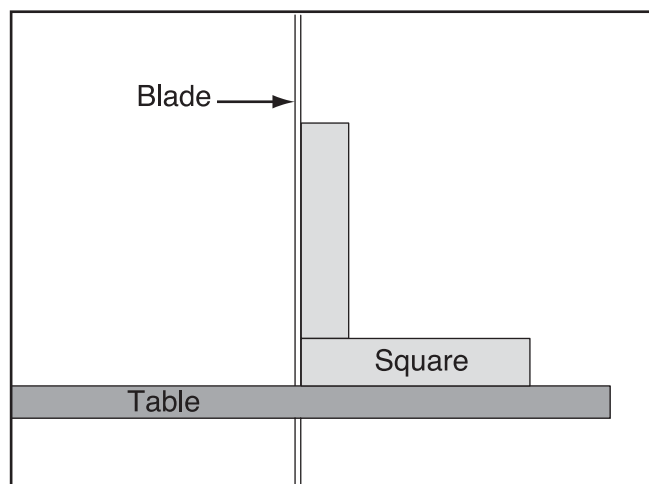

Figure 76. Squaring table to blade.
4. Place a machinist's square on the table next to the side of the blade as illustrated in **Figure 76**.